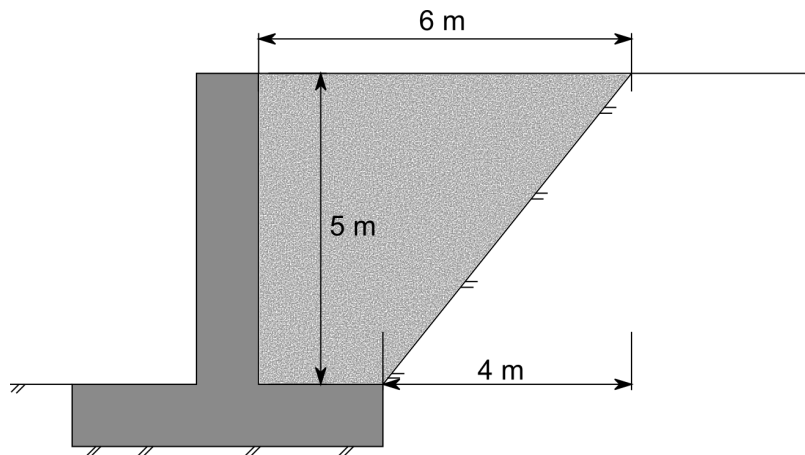

Figure 1: Sketch of retaining wall geometry for problem 4.
4. [O1] (15 points) A laboratory test determined that the minimum and maximum void ratios of some gravel are $e_{min} = 0.2$ and $e_{max} = 0.95$ respectively. In a construction site, the gravel was used as fill for a 20m long retaining wall shown in figure 1. It was determined that the in-situ moist unit weight was $\gamma_t = 20 \text{ kN/m}^3$ with a moisture content of $w = 8\%$. a) Determine the in-situ void ratio of the gravel, b) its relative density, c) minimum and maximum dry densities. d) If the gravel is transported from its source with a relative density of $D_r = 23\%$ and moisture content of $w = 1\%$, what is the volume of gravel transported from its source to the site?. Use $G_s = 2.67$.